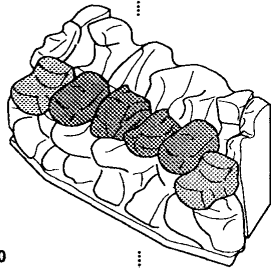

Fig. 30
2. Take 4 coals and place as shown in Fig. 30 bridging the front coal moulding and the rear coal moulding, ensure and flat faces on these coals face downward. Care should be taken as not to allow any coals to drop down between the front and rear coal mouldings (Fig. 30).